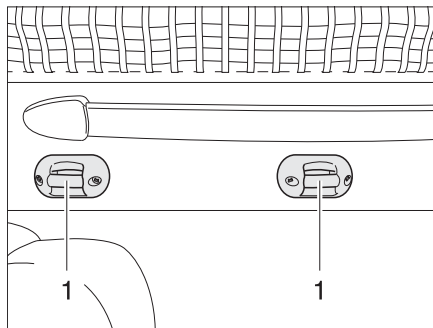

Fig. 154 Access ladder holder
- Hook the access ladder to the pull-down bed by attaching both brackets into the U-bolts (Fig. 154,1).